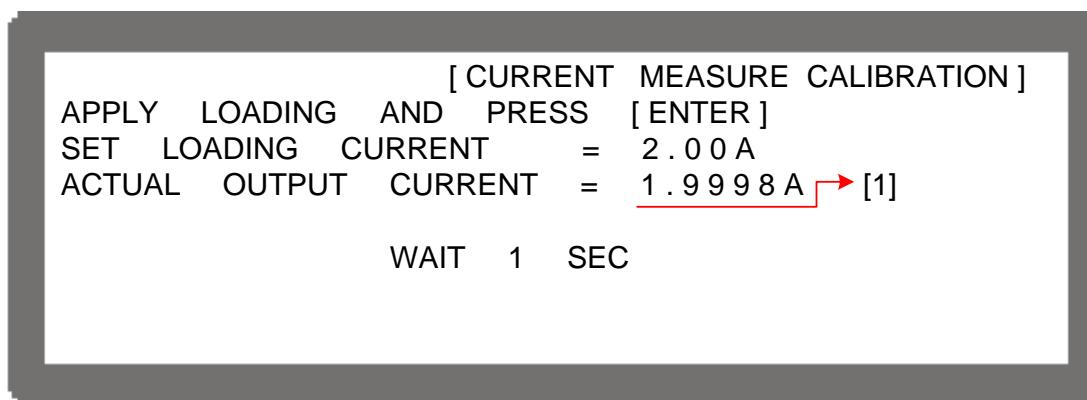

Figure 3-105
5. Then it will show Figure 3-105 and press “**ENTER**”. First it will calibrate the low current range, the system outputs 5V voltage and then sets the loading current of Electronic LOAD to 2.00A. The cursor is stopped at position [1] as Figure 3-105 shows. Enter the current (4 digits after decimal point) read by Current Shunt (DVM) and press “**ENTER**” to confirm and wait for it to end.